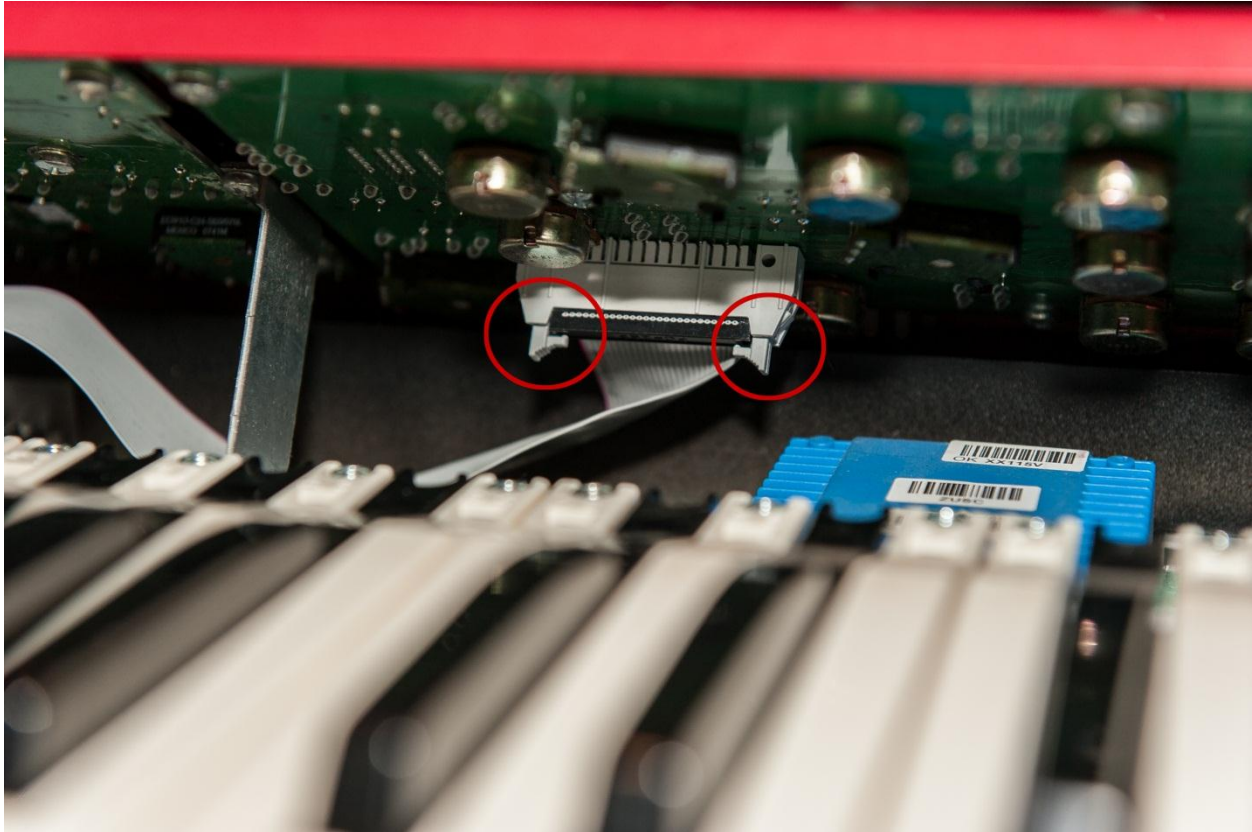

Figure 4 – Disconnecting ribbon cables
6) Move the thumb levers (Figure 4) located on both sides of the connector slightly outward, each side a little at a time. Be gentle – if you break these, you’re going to be rather unhappy. Pay attention to which cable goes where.